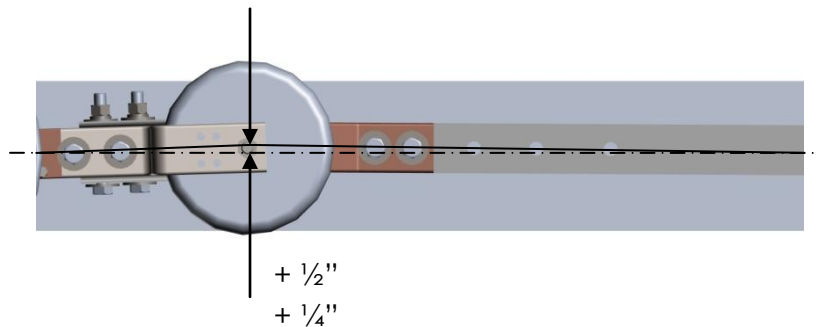

Figure 13: Left-handed Switch Blade Over Toggle
- 2) The switch blade over toggle should be between  $\frac{1}{4}$ " and  $\frac{1}{2}$ ". See Figure 13. If necessary, use the live parts close position stop bolt to adjust the over toggle.